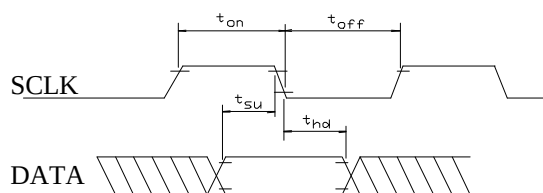

Figure 3. SCLK and DATA Timing Diagram
3.7 AC ELECTRICAL CHARACTERISTICS (see Figures 3,4,5) (V_{CC} = 5V)